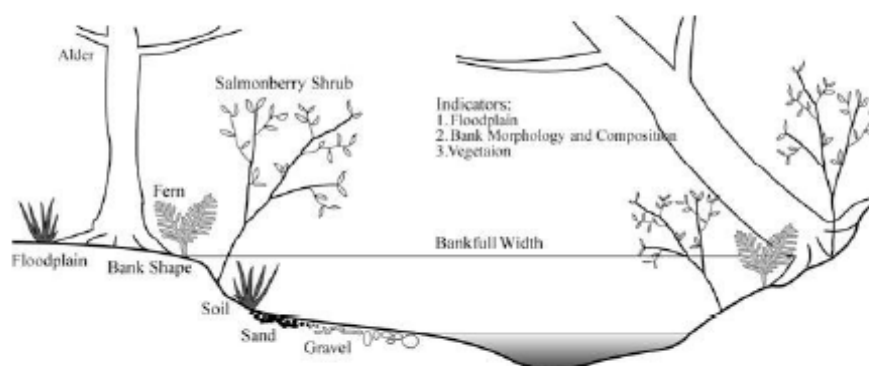

Figure 1. Indicators for determining bankfull width (adapted from Pleus and Schuett-Hames, 1998).
- **Sediment Texture** - A change in the size distribution of surface sediments (e.g., gravel to fine sand) (Figure 1).